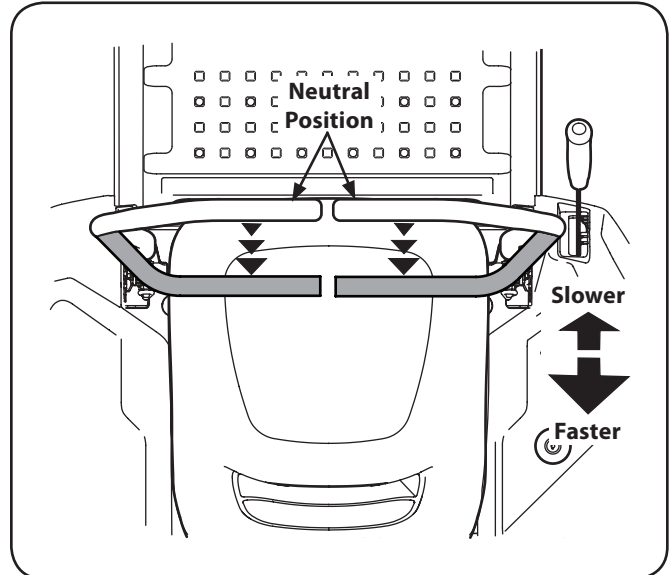

Figure 5-6
1. Slowly and evenly move both drive control levers rearward. The tractor will start to move in the reverse direction. See Fig. 5-6.